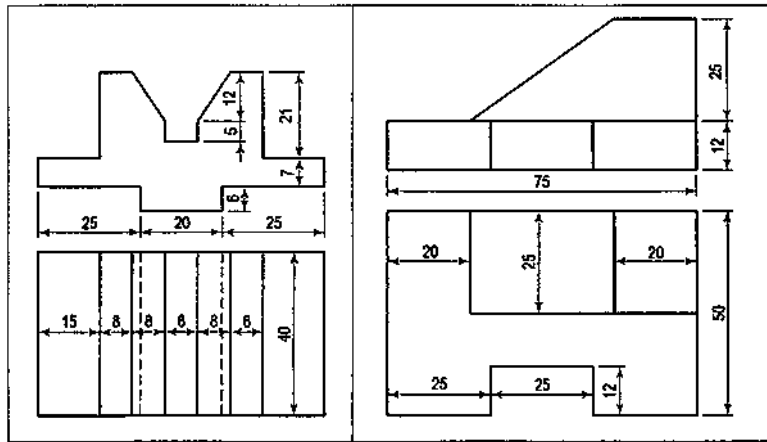

Fig.12.1
1. Draw the isometric view for the given orthographic views Fig.12.1